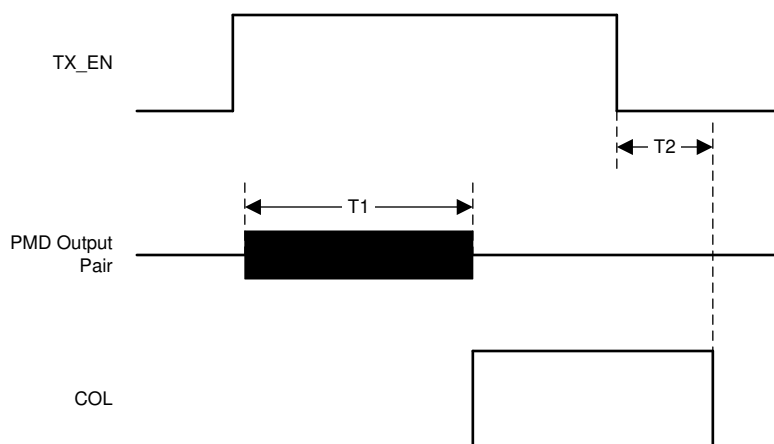

Figure 7-15. 10BASE-Te Jabber Timing
(1) Ensured by production test, characterization or design.
(2) See Figure 7-15.